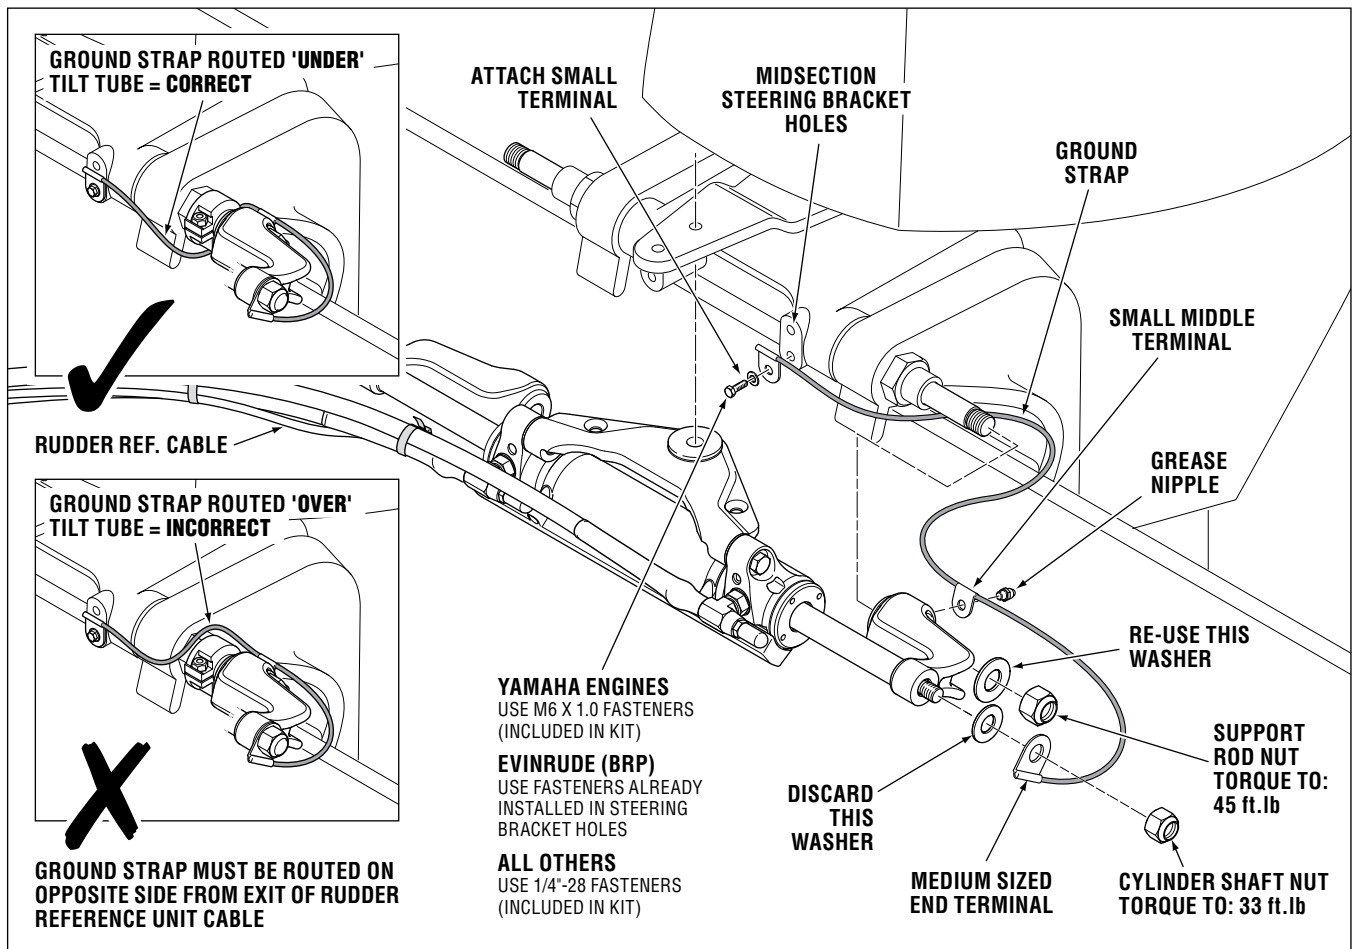

Figure 5-18.
- Install ground strap to cylinder on **opposite** side from Rudder Reference Unit cable exit as per Figure 5-18.